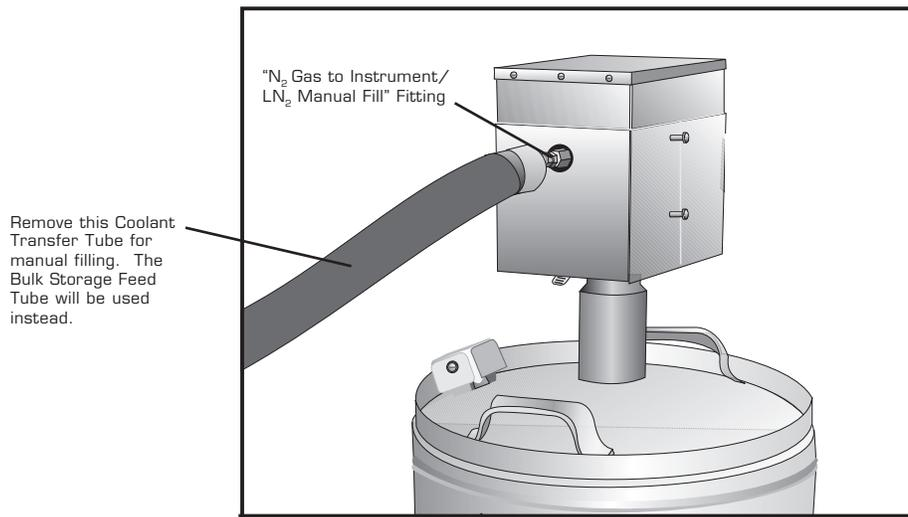

Figure 3.2
6. Connect the bulk storage feed tube from the bulk storage reservoir to the **N₂ Gas to Instrument/ LN₂ Manual Fill** fitting on the GCA (shown in Figure 3.2). Tighten all fittings.